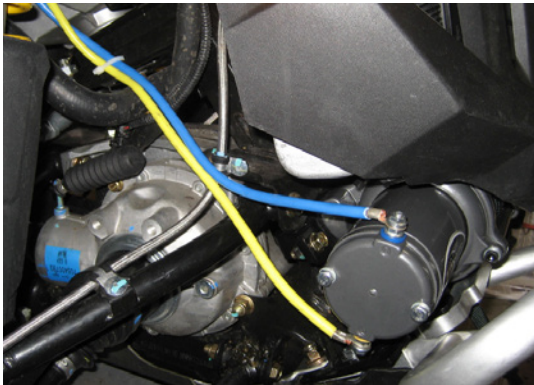

Figure 30
- After reading through ALL wiring instructions AND adhering to their instruction, wire cables following the color coded scheme. Keep wires tightly bound together, away from moving parts and anything that will become hot (primarily the exhaust system) (Figure 30).